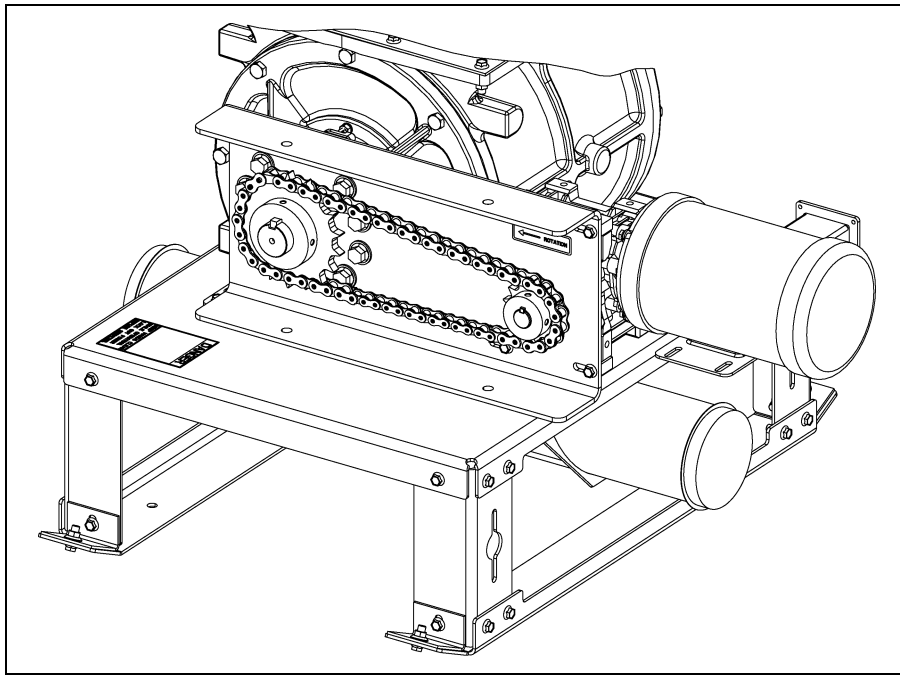

Figure 7J
- Next, install the chain on to the sprockets and apply tension by sliding the gearbox to the right. Tighten the four (4) 3/8" flange bolts on the two (2) drive mount bars. (See Figure 7J.)